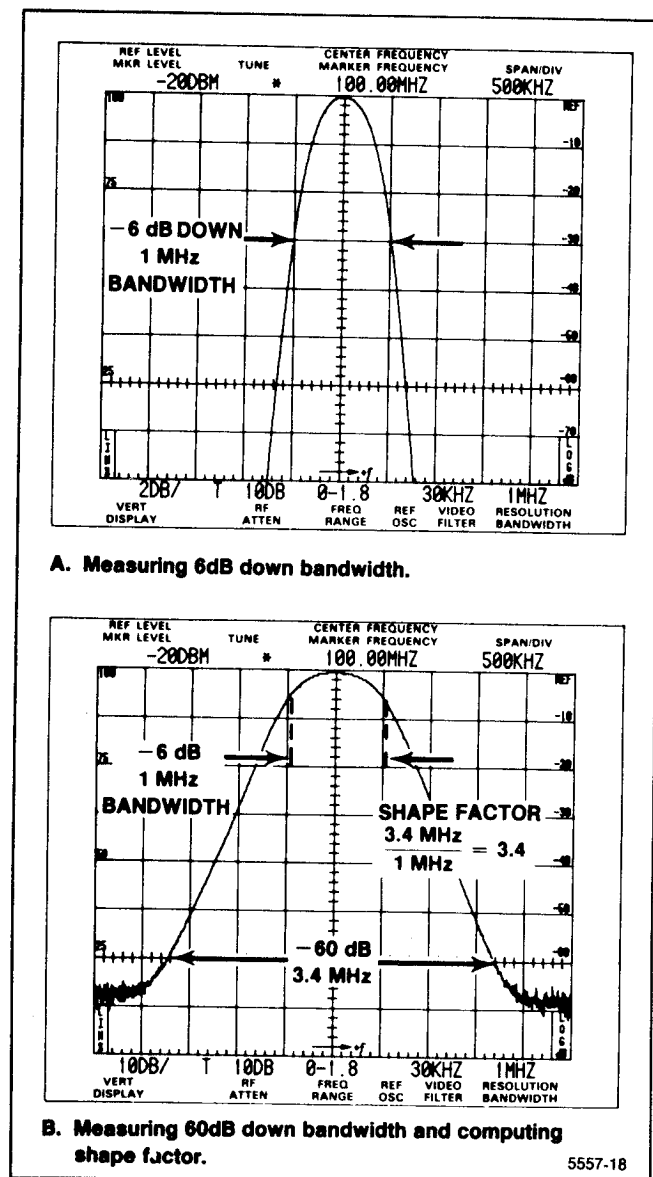

Figure 5-4. Displays that illustrate how bandwidth and shape factor are determined.
d. Calculate the shape factor as the ratio of -60 dB/-6 dB bandwidths (see Figure 5-4). Shape factor should equal 7.5:1 or less.